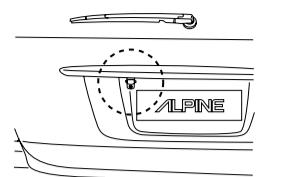
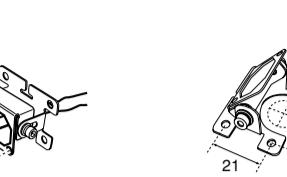

Fig.1/Schéma 1/Fig.1
Fig.2/Schéma 2/Fig.2
- Fix the camera to the camera mounting bracket ②. Pull the camera cable through to the camera mounting bracket ②, and secure with the hex screws ③ (see Fig. 1).
- Loosen the camera mounting bracket ② and angle adjustment screw. Determine the attachment angle, and carefully tighten the angle adjustment screw.
- Make a 13 mm hole in the rear bumper camera mounting bracket (see Fig. 2).
- If necessary, use a self-tapping screw ⑨ to fix the camera mounting bracket (In the case of a plastic mount area).